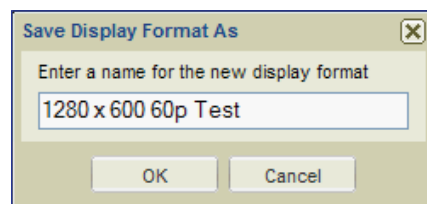

Figure 148. Save a Display Format
13. Click **Save As** (❷) to save the new display format.
14. In the **Save Display Format As** dialog box (see figure 148), enter a name for the new display format and click **OK**.